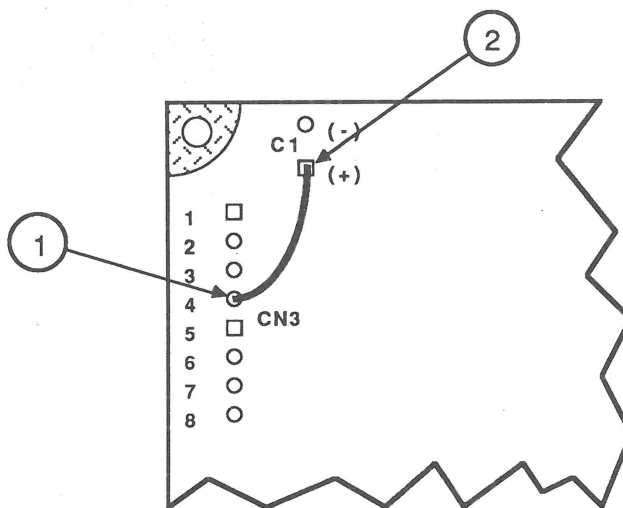

FIGURE 22
2. Find the one-inch jumper wire packaged with the daughter board installation bracket in the Optical Sensor Assembly Kit. You must solder this wire to the underside of the main logic board between pin 4 of connector CN3 (Figure 22, #1) and the positive terminal of capacitor C1 (Figure 22, #2).